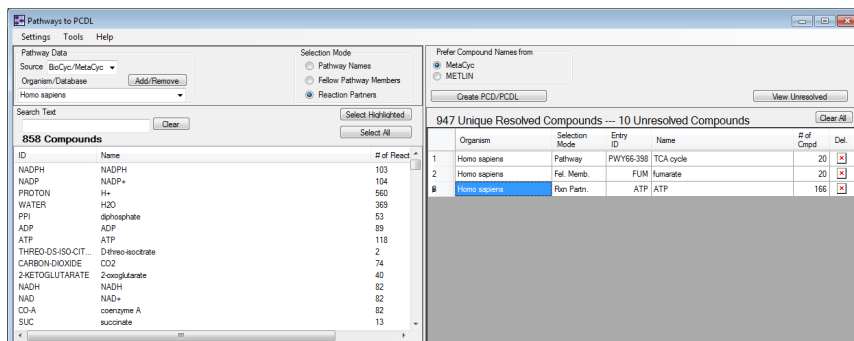

Figure 19 ATP reaction partner added to the Selected Pathways List
- Review the updated list of pathways in the display pane (Figure 19).